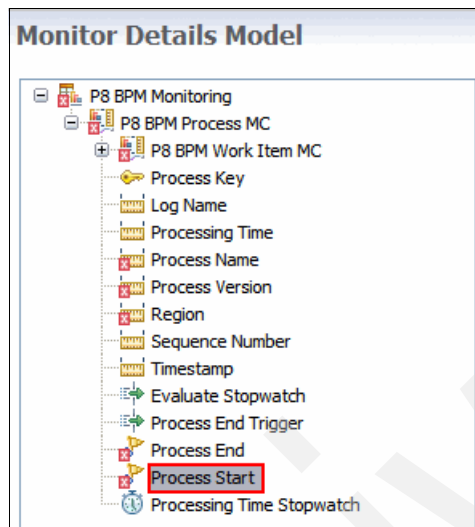

Figure 7-74 Process Start inbound event
10. To configure the event filter for the inbound event so that the event's Process Start Time is greater than Monitor Model's Deploy DateTime, select **P8 BPM Monitoring** → **P8 BPM Process MC** → **Process Start** (Figure 7-74).